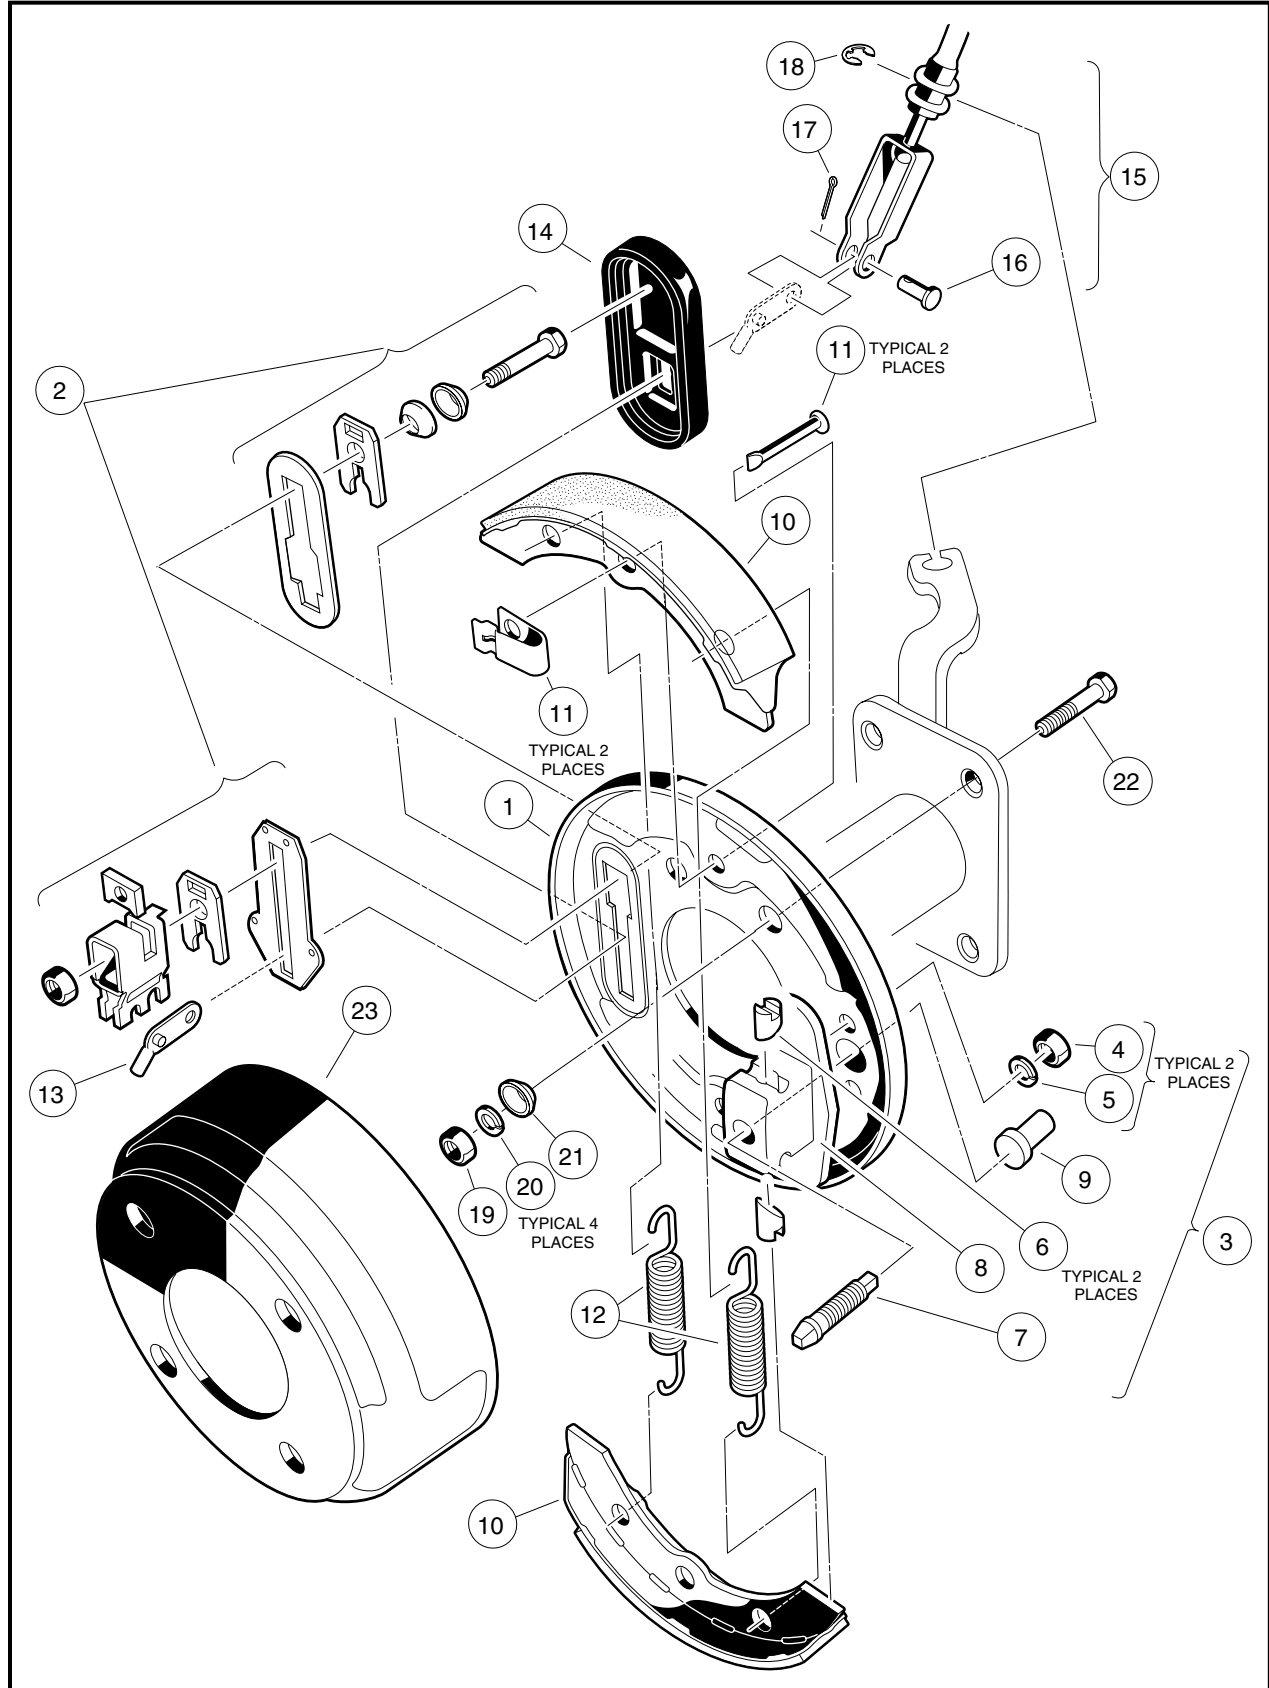

Figure 6-33 Front Manually-Adjusted Brake Assembly
NOTE: Components of the front wheel brake assembly are identical to the rear wheel manually-adjusted brake assembly. The front brake assembly is rotated 90° (when compared to the rear brake assembly) so the adjusting bolt on each assembly is oriented to the rear of the vehicle rather than at the top of the assembly (**Figure 6-33, Page 6-18**).
5. Remove cotter pin (17) and clevis pin (16) from brake cable (**Figure 6-33, Page 6-18**).
8. Remove hub and bearing assembly from spindle shaft. Remove four bolts (22), cone washers (21), lock washers (20) and hex nuts (19) that mount the brake assembly to the spindle (**Figure 6-33, Page 6-18**).
1. Install in reverse order of removal. Use bolts (22), cone washers (21), lock washers (20) and hex nuts (19) to mount brake assembly (**Figure 6-33, Page 6-18**).